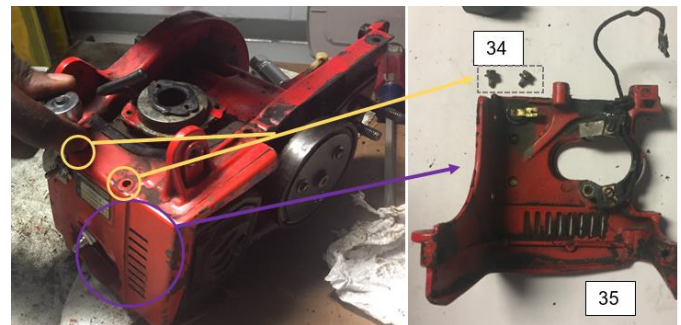

Figure 18: Back Cover Removal
Step 14: Located near the top of the Back Cover, there are two screws holding the Back Cover with Ignition Switch (35) in place. Use a 3/8in socket wrench to unscrew the two Back Cover Bolts (34) and manually remove the Back Cover with Ignition Switch from the main assembly. (Figure 18)